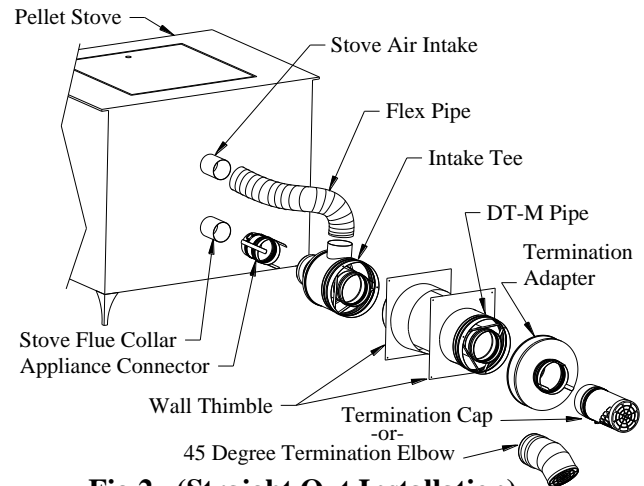

Fig 2. (Straight Out Installation)
- a. If venting horizontally, connect vent sections directly to the Pipe Connector (See Fig 2).